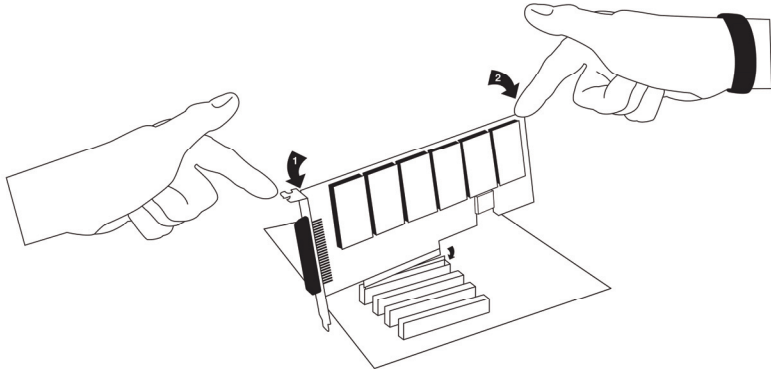

Figure 8: Insert the Card
3. Remove the bracket place holder and insert the card into a PCI (TDM2400P) or PCI Express (AEX2400) slot. See Figure 8.